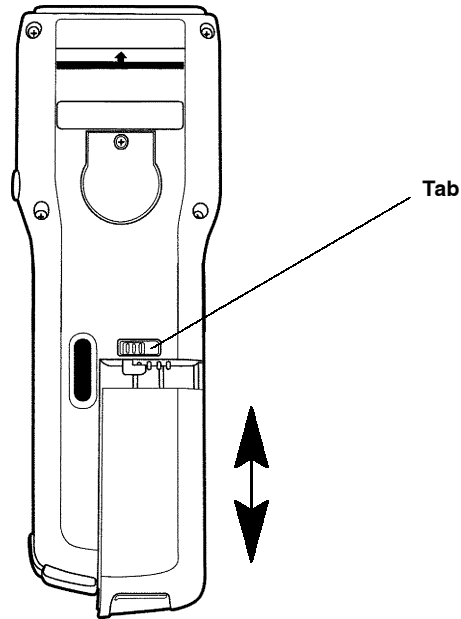

Figure 1-1
1. Slide tab from right to left (see Figure 1-1).